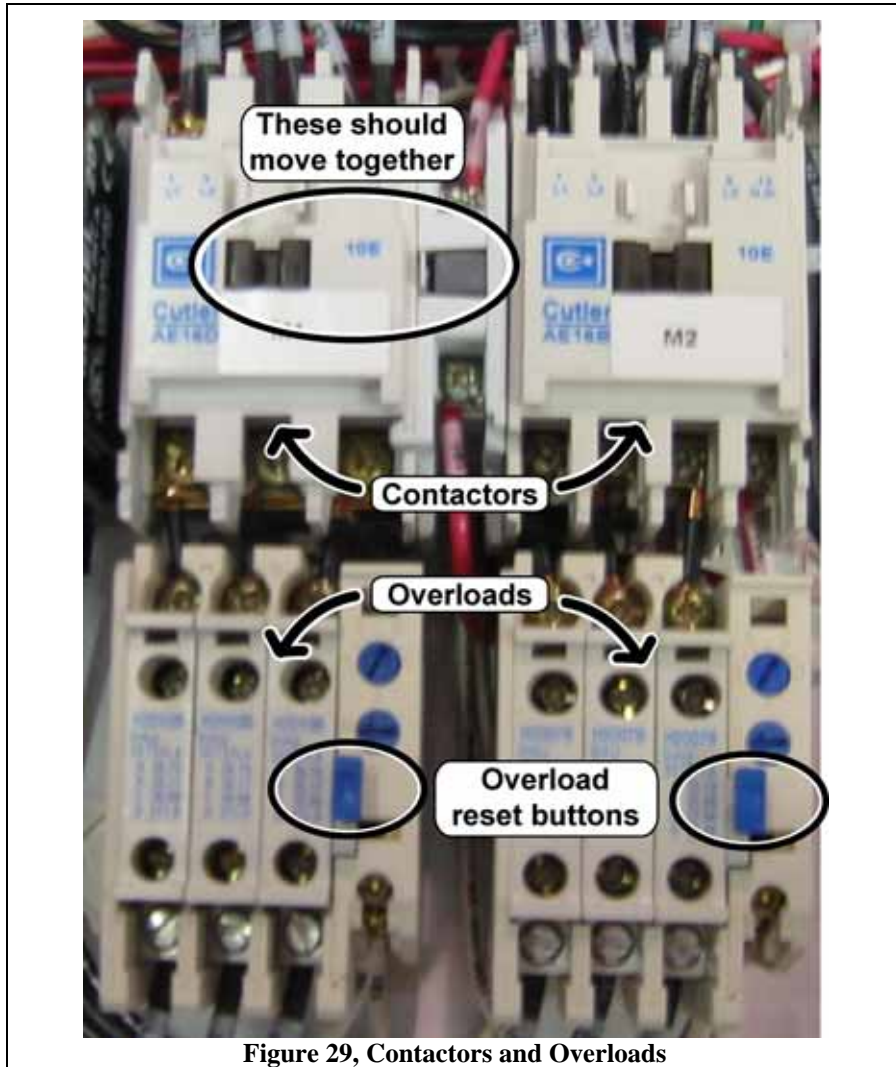

Figure 29, Contactors and Overloads
- Step 1) Check that the overloads attached to the contactors are reset with no red indicator (pull gently, then push back down.) (Figure 29)
- Step 5) With power disconnected, manually push in the center of the M1 contactor (Figure 29), the small switch between the two contactors should follow the movements of M1.
Step 4) Check that the overloads attached to the contactors are reset with no red indicator (pull gently, then push back down.) (Figure 29)